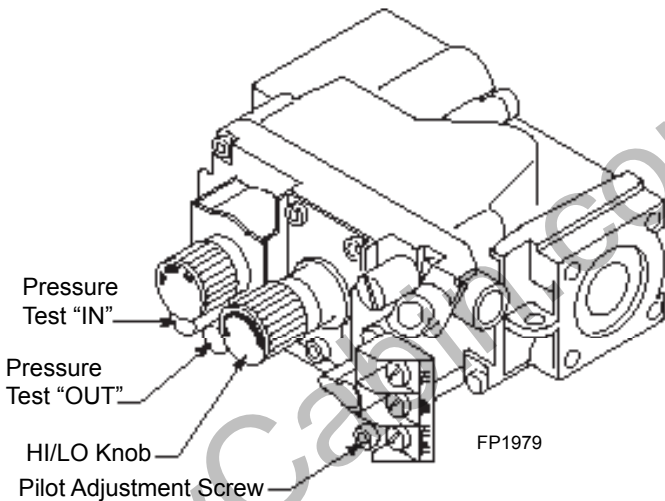

Figure 43 - Gas Pressure Check at Gas Valve
5. To check gas pressures at valve, turn captured screw counter clockwise 2 or 3 turns and then place tubing to pressure gauge over test point. Turn unit to high. *Figure 43.* After taking pressure reading, be sure and turn captured screw clockwise firmly to reseal. Do not over torque. Check test points for gas leaks.